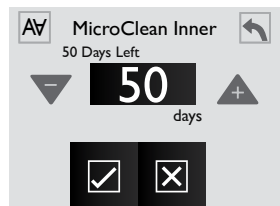

Figure 12.6f
A programmable filter timer can be set to remind you when to replace the MicroClean Inner Filter. Tap  (Figure 12.6f) to enter the Programming Menu.
1. From the “Water Care” Menu you can to set the MicroClean Inner timer, Figure 12.6f.